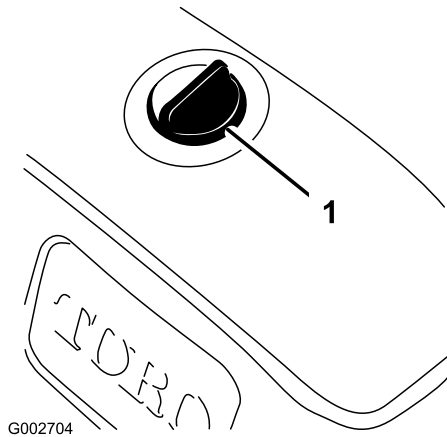

Figure 8
3. Clean the area around the hydraulic oil-reservoir cap to prevent debris from entering the tank (Figure 8).